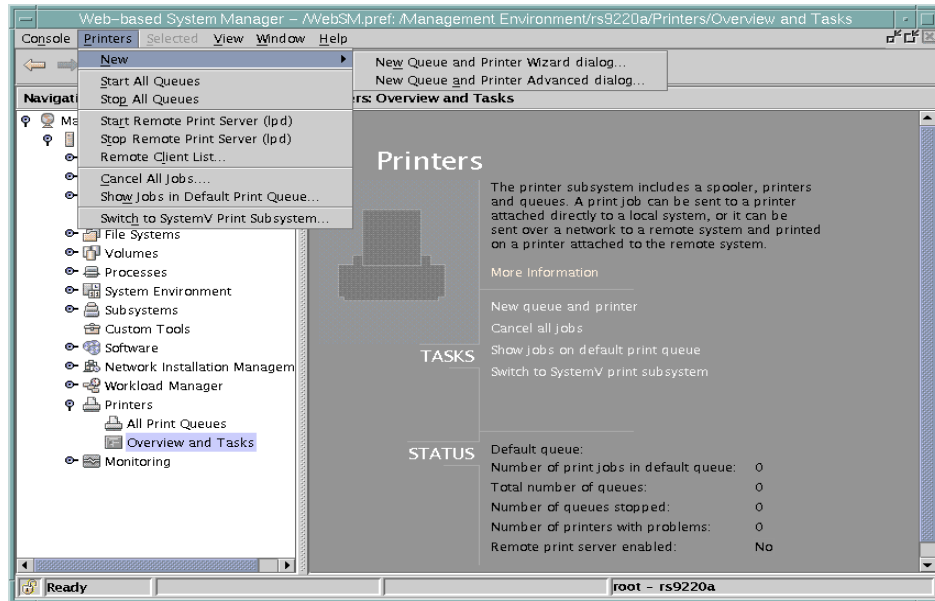

Figure 60. Overview and tasks panel for printers
1. Start the Web-based System Manager either from the CDE **Application Manager -> System_Admin -> Management Console**, or from the command line using `wsm`. From the main **Management Environment** panel, open the **Printers** container, then the **Overview and Tasks** object. A panel similar to Figure 60 should appear.